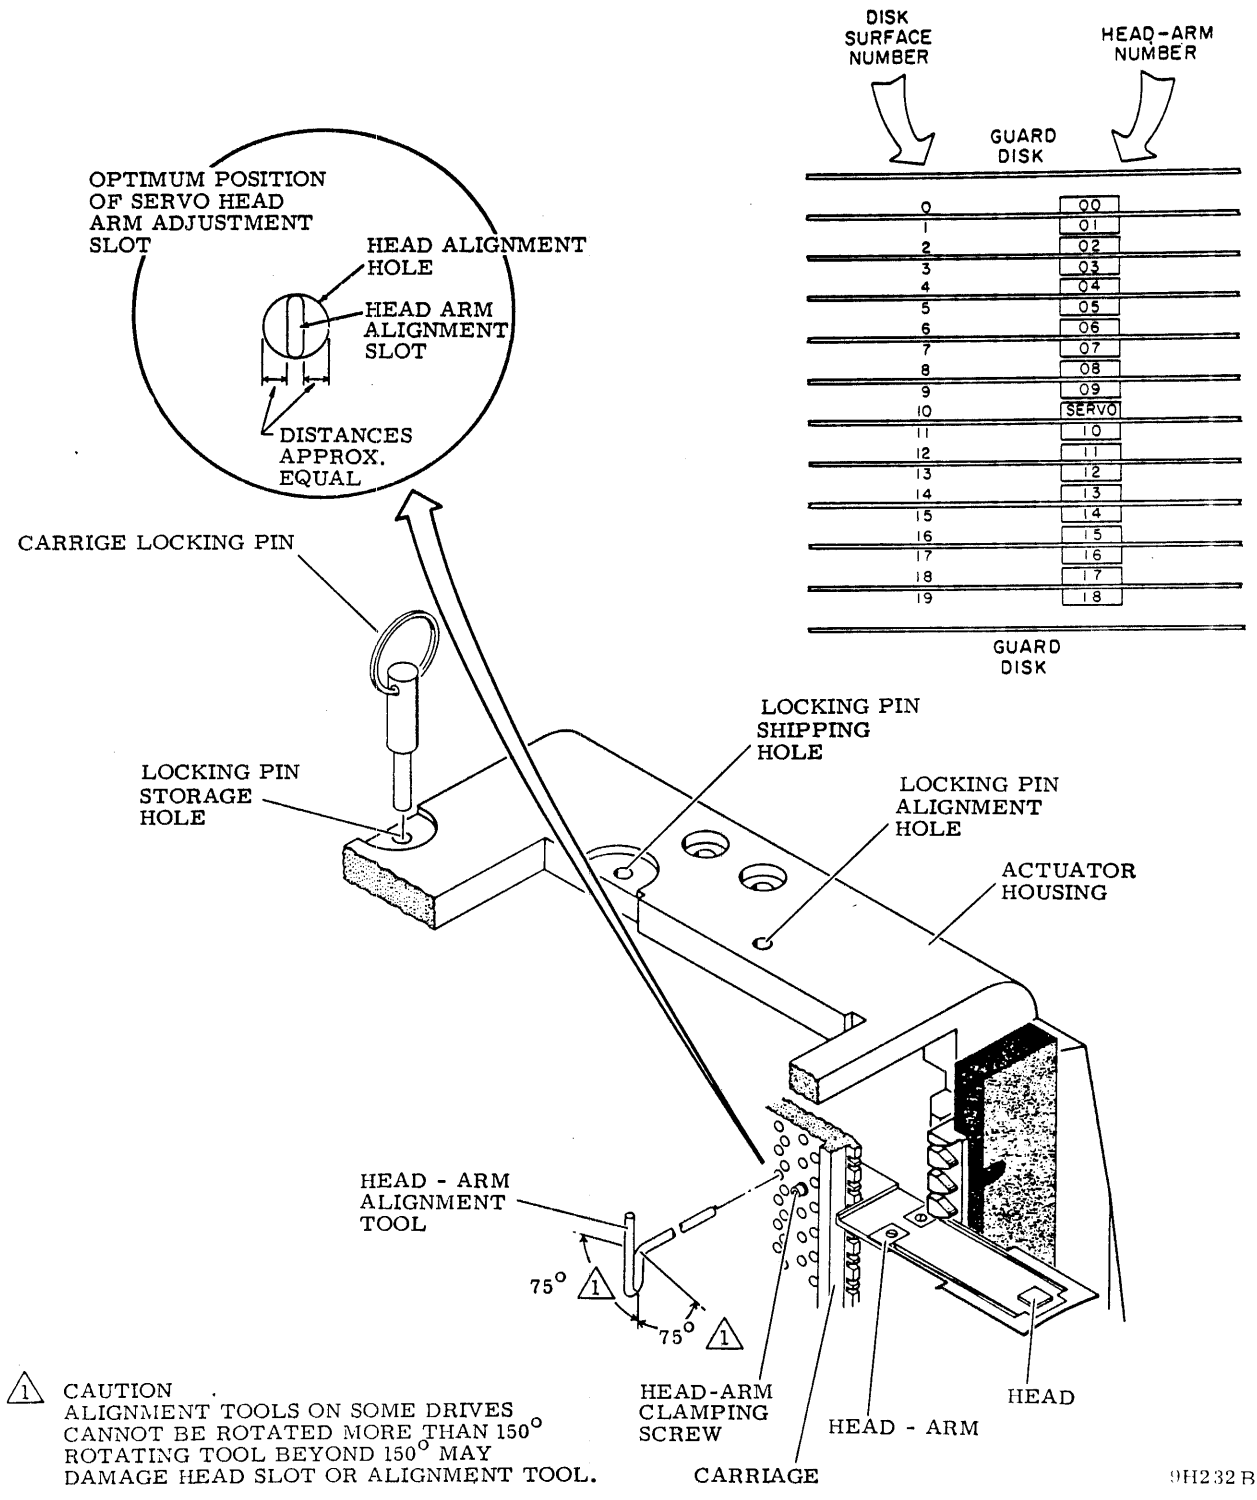

Figure 4-4. Head Arm Alignment
11. Command direct seek to cylinder 800 (400) and repeat steps 4 through 8.
12. Command direct seek to cylinder 491 (245).
13. Install carriage locking pin into alignment hole (refer to figure 4-4) and repeat steps 4 through 8.
- b. Install head alignment tool so that tool pin engages head-arm alignment slot (refer to figure 4-4).